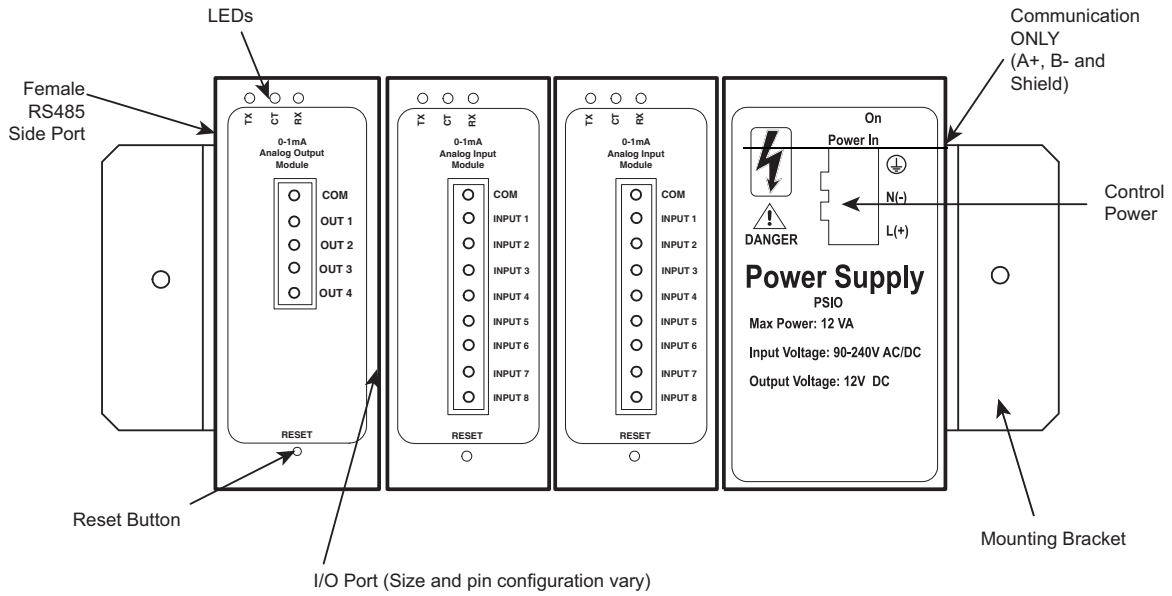

Figure 11-6: PSIO with Multiple External I/O Modules
4. Attach a PSIO (power supply) to the right of each group of I/O modules it is supplying with power (see Figure 11-6). The PSIO supplies 12 VA at 125 V AC/DC. See sections 11.8.6 - 11.8.8 for I/O modules power requirements.